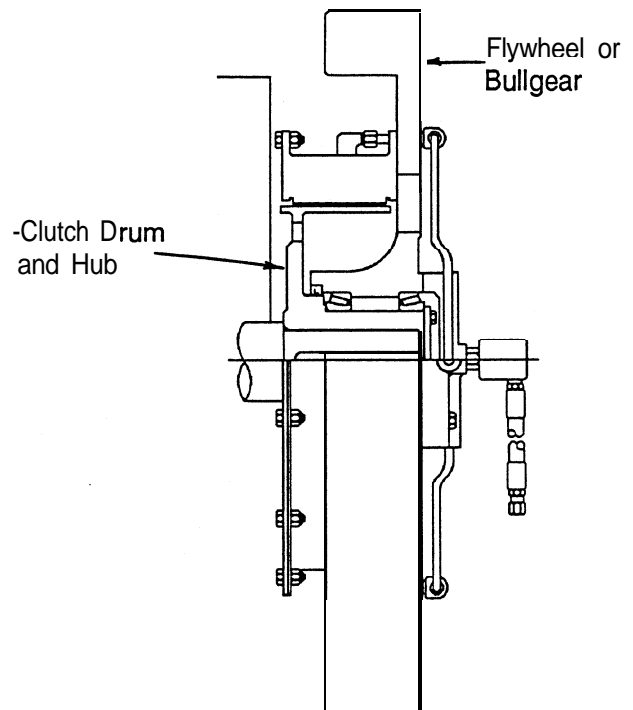

Fig. 8
- 2.1.6 Figure 8 illustrates a VC clutch mounting for punch press applications. The drum and drum hub are attached to the crankshaft or backshaft and the element is attached to a bearing-supported flywheel or bullgear. VC clutches on punch presses are typically used in combination with Air-flex type CTE and DBA brakes.